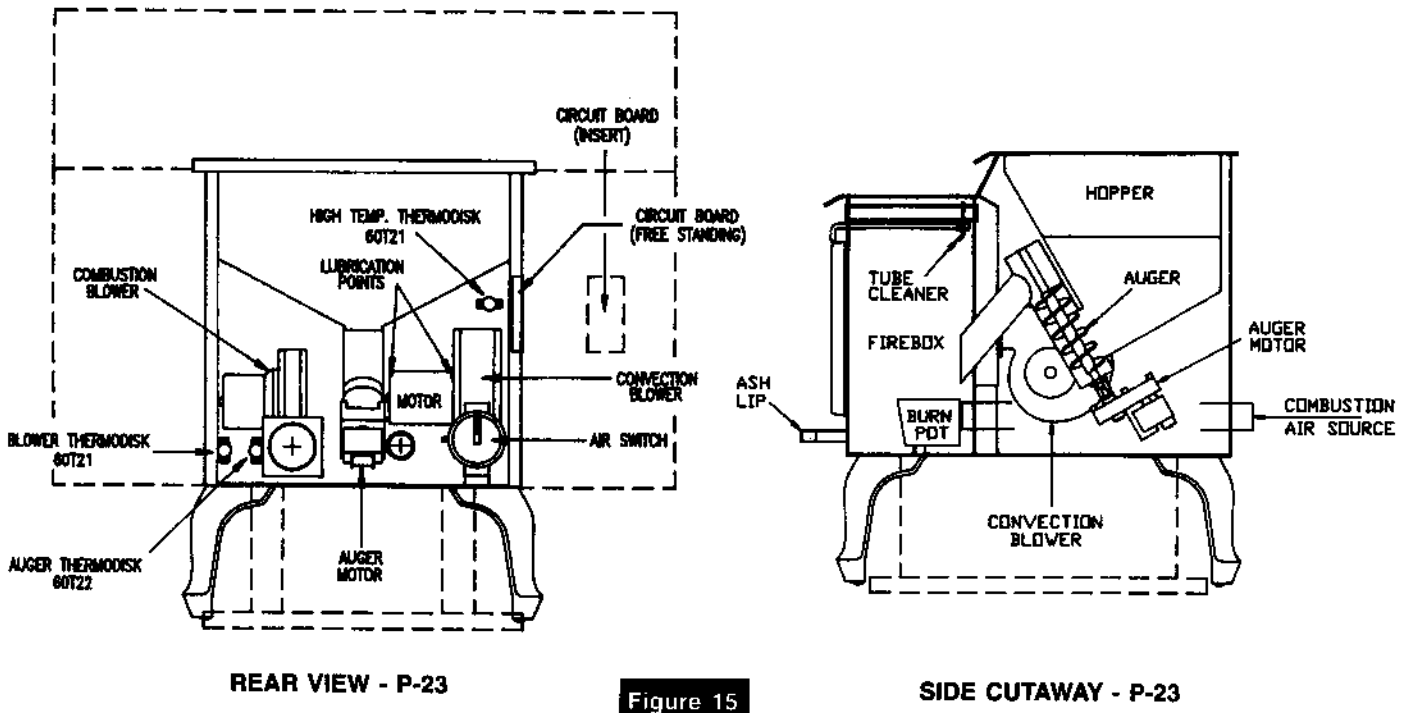

Figure 15
- Oiling** — Blower manufacturers suggest oiling annually. See figure 15 for lubrication points. Use SAE 20W motor oil. Limit to one or two drops.
When your stove acts out of the ordinary, the first reaction is to call for help. This guide may save time and money by enabling you to solve simple problems yourself. Problems can be due to only five factors: 1) poor fuel; 2) poor operation or maintenance; 3) poor installation; 4) component failure; 5) factory defect. You can usually solve those related to 1 and 2. Your dealer can solve those in 3, 4 and 5. Refer to figures 15 and 16 to help locate indicated parts.